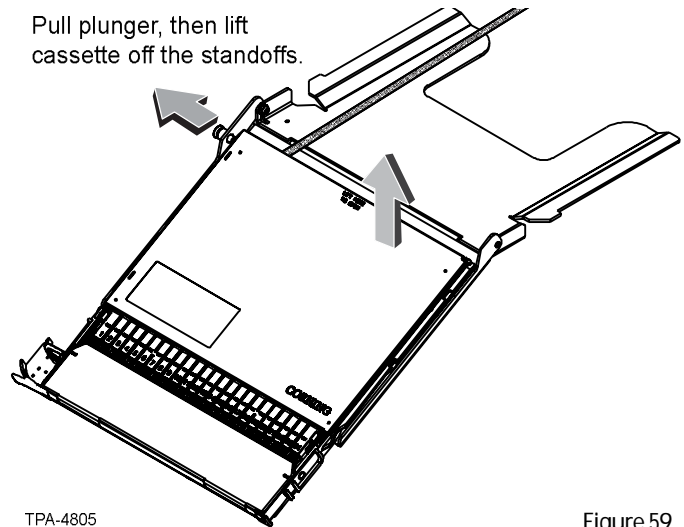

Figure 59
Step 25: If using the cassette service bracket, pull the plunger on the side and lift the cassette off the service bracket (Figure 59).